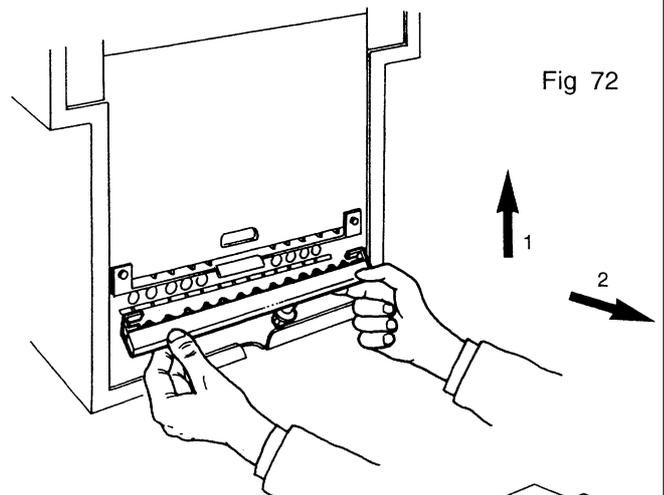

Fig 72
- 7.14.4 Pull the manifold up and out from the combustion chamber (Fig. 72).